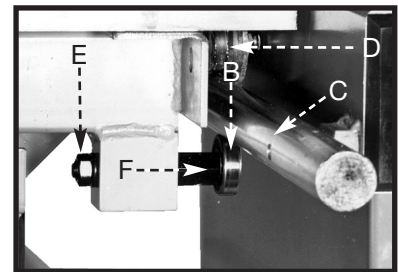

Fig. 35
NOTE: The guide rail (C) must be between the two V roller bearings and the two flat roller bearings underneath the table assembly (Fig 35).
10. Adjust the two lower bearings, one of which is shown at (B) Fig. 35, so that the upper guide rail (C) will be between the two lower bearings (B) and two upper bearings (D). Adjust the bearing (B) by loosening the nut (E) and turning the eccentric (F) to move the bearing (B) up or down. Adjust the rear bearing in the same manner.